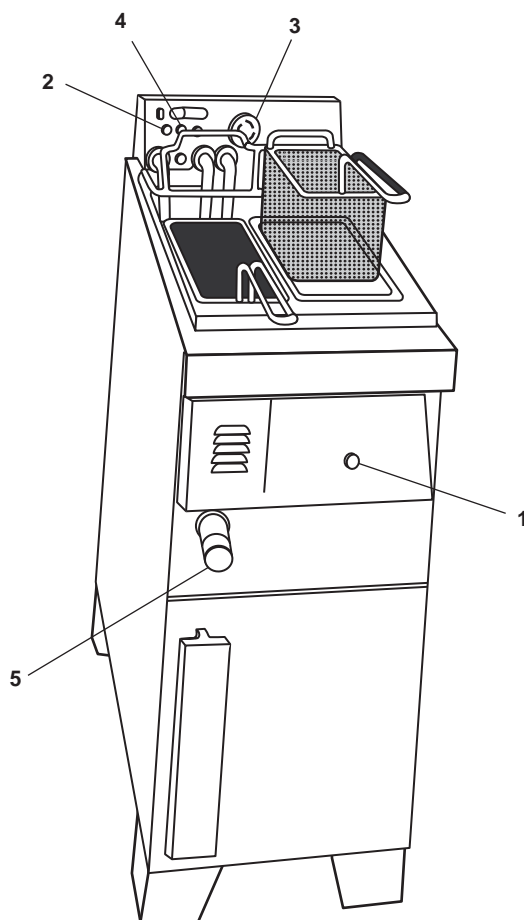

Figure 9. Fryer
- b. Set the ON-OFF POWER switch (figure 9, item 1) to the ON position. The POWER indicator (figure 9, item 2) will light.
- c. Set the THERMOSTAT (figure 9, item 3) to the desired temperature. Observe that the heating indicator (figure 9, item 4) is lit.
- a. Set the THERMOSTAT (figure 9, item 3) to the OFF position.
- b. Set the ON-OFF POWER switch (figure 9, item 1) to the OFF position. The POWER indicator (figure 9, item 2) will go out.
- c. When the cooking oil has cooled down, open the drain (figure 9, item 5) and allow the oil to drain into the bucket.